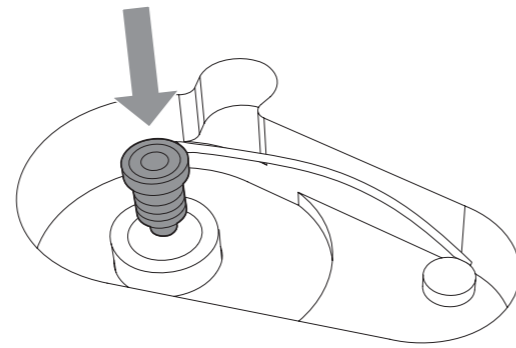

Fig. 6
4. Use water to rinse the interior and drain out all the water by unplugging the Water Drain Cap on the front bottom of the Ice Maker (see Fig. 6).